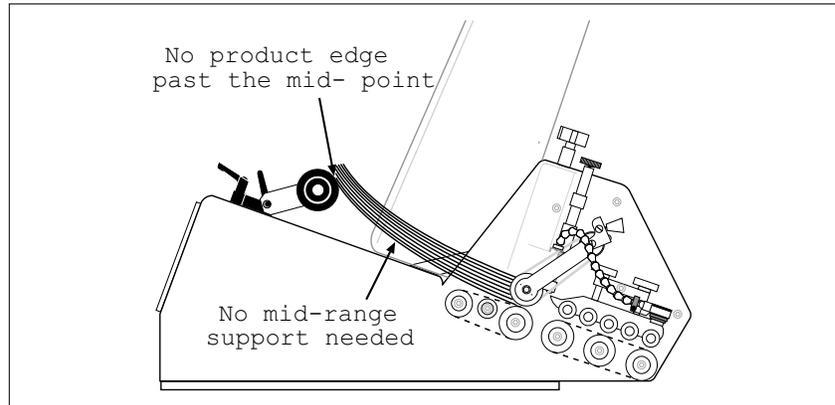

Figure 7-8. **Articulating Roller Wedge Setup**
**Setup guidelines:** Adjust so roller edges preshingle the stack against the curvature of gate assembly. Again, make sure edges of product do not extend back more than the mid-point of roller. See Figure 7-8.